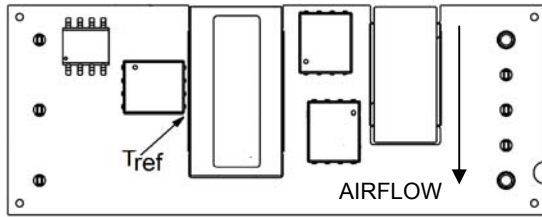

Figure 13.  $T_{ref}$  Temperature Measurement Location for Open Frame Module.
To provide protection under certain fault conditions, the unit is equipped with a thermal shutdown circuit. The unit will shutdown if the thermal reference point  $T_{ref}$  (Figure 13), exceeds 135°C (typical), but the thermal shutdown is not intended as a guarantee that the unit will survive temperatures beyond its rating. The module can be restarted by cycling the dc input power for at least one second or by toggling the remote on/off signal for at least one second. If the auto-restart option (4) is ordered, the module will automatically restart upon cool-down to a safe temperature.
The thermal reference point,  $T_{ref}$  used in the specifications for open frame modules is shown in Figure 13. For reliable operation this temperature should not exceed 123°C.